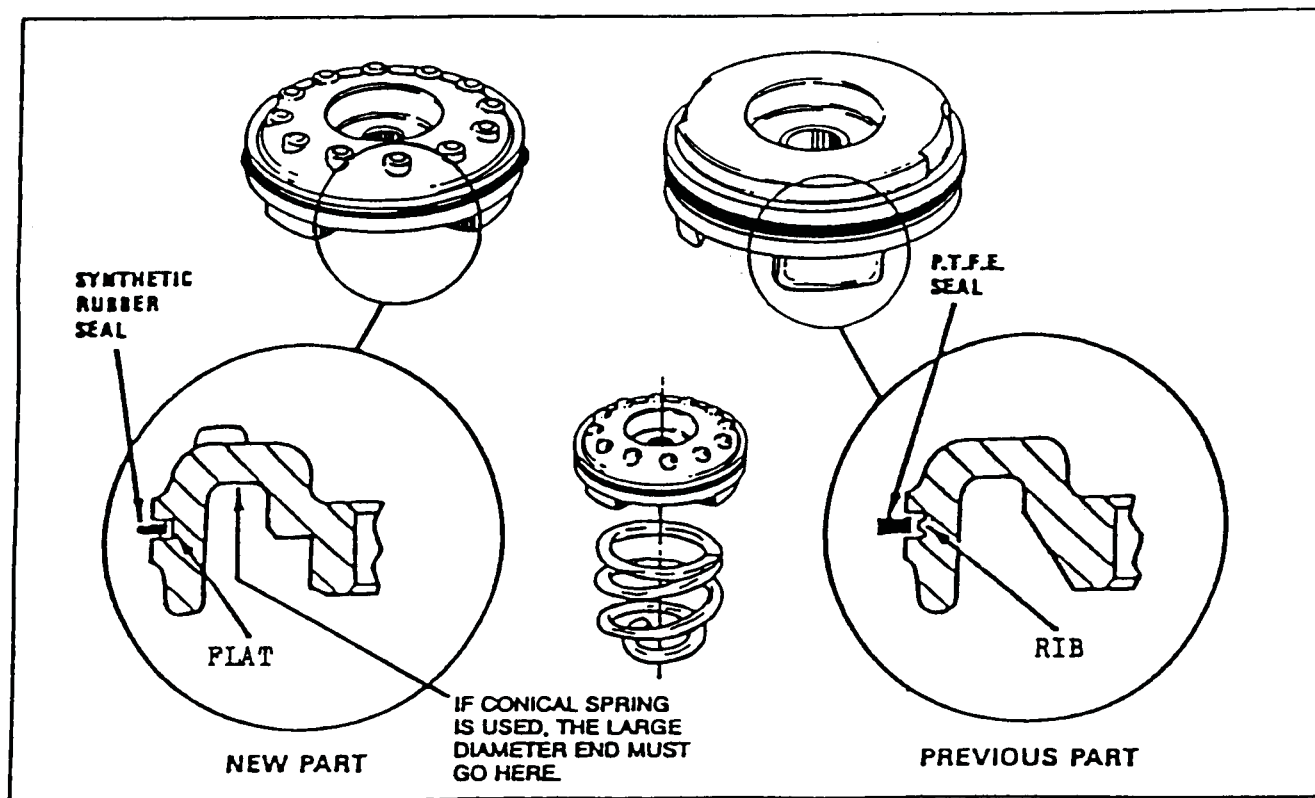

Figure 128
CHANGE: New design accumulator piston, seal, and spring (See Figure 128).
1. Accumulator piston (See Figure 128).
3. Accumulator piston conical spring for some models (See Figure 128).